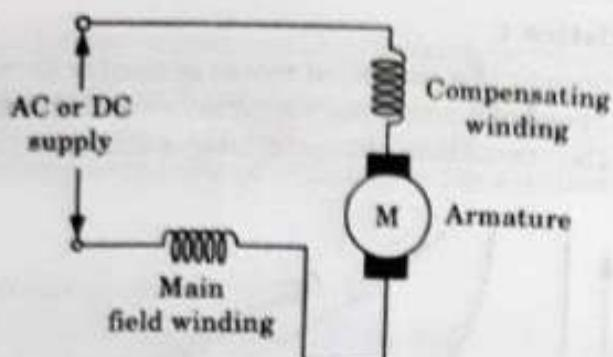

Fig. 5.5.4. Compensated type.
- b. **Compensated type :** The connection diagram of compensated type universal motor is shown in Fig. 5.5.4.